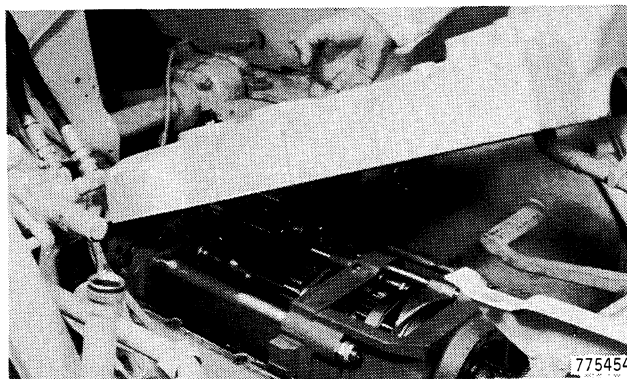

Figure 37
39. Remove the transmission cover plate, Figure 37.